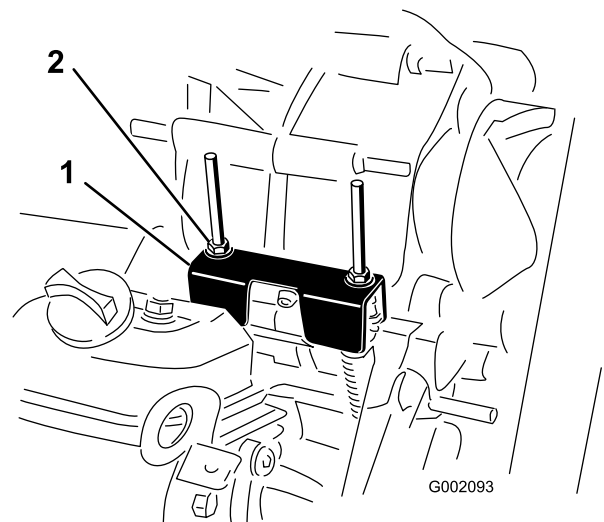

Figure 28
When performing routine maintenance and/or engine diagnostics, the transaxle must be shifted into neutral (Figure 28). The vehicle has a neutral position on the shift lever, which controls the neutral in the transaxle. The following steps should be taken to make sure that the neutral shift lever operates the transaxle neutral correctly:
2. Ensure that the neutral bracket is in the neutral position (level to the cable mounting bracket located below the shift bracket) by turning the driven clutch (Figure 28). The vehicle should not roll back and forth. If it does, manually move the neutral bracket to the neutral position.
3. Tighten one of the locknuts (Figure 28) to achieve a gap of 0.03-0.06 inch (0.76-1.52 mm).